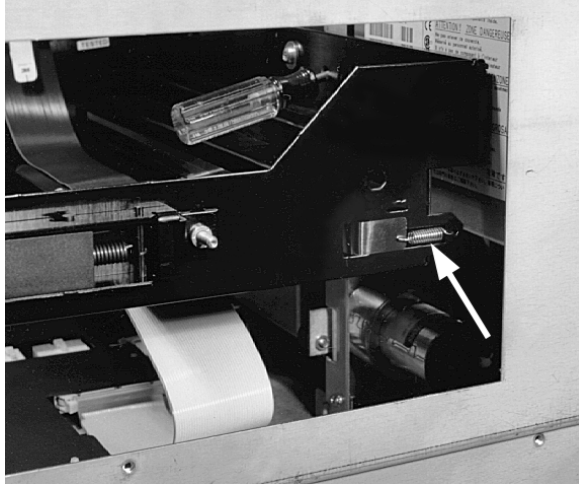

Figure 5-29. Horizontal Encoder Strip Mounting
14. Unhook the spring that holds the end of the strip to the lower outside of the translate frame. Remove the strip. (See Figure 5-29.)